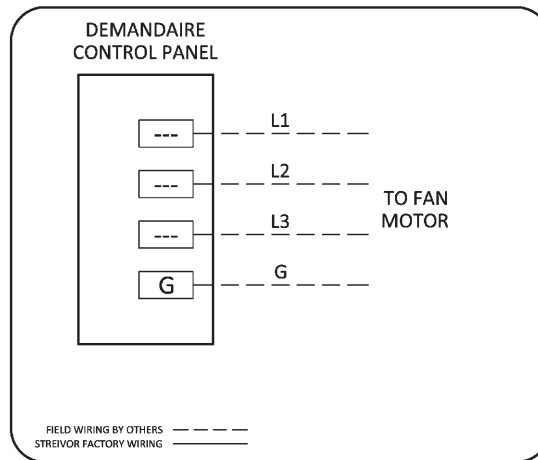

**FIGURE 2: Motor Circuit Input Power**
- Connect input power to the input power terminal blocks as shown on the DCP drawings (Figure 2).